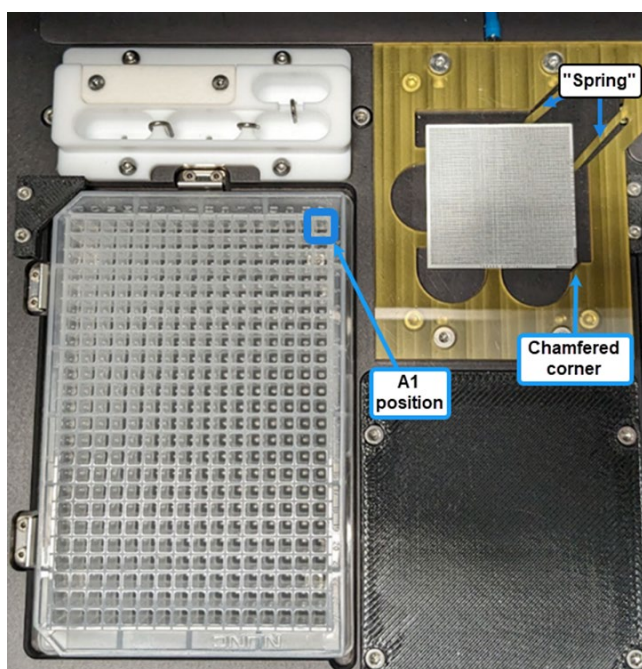

Figure 3. Shasta Single Cell System Stage Module. (Left) 384-Well Source Plate nest. (Right) Single-Cell chip nest.
- All dispensing steps in the Shasta Single Cell System stage module should be performed with a 384-Well Source Plate oriented with the A1 well positioned at the top-right corner of the 384-well plate nest (Figure 3). The source plate must be fully seated. This may be accomplished by pushing the source plate down after it has been placed on the plate nest.
- All dispensing steps in the Shasta Single Cell System stage module should be performed with the Single-Cell 350v Chip oriented with the chamfered (beveled) corner positioned towards the bottom-right corner of the chip nest (Figure 3).